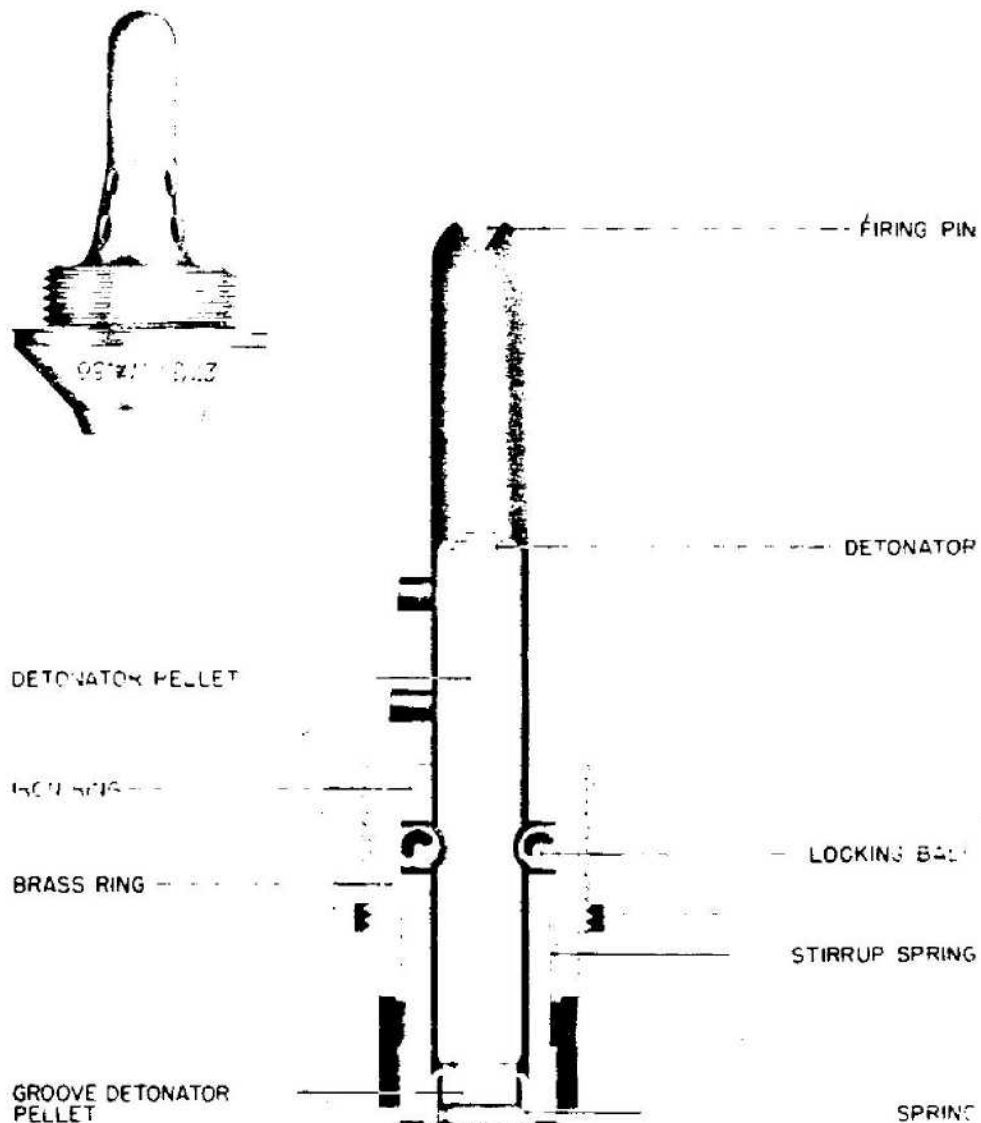

Figure 605—W. Z. 36
**EMPLOYMENT:** Mechanical Impact Base Fuze for Polish 3.7-mm A. P. shell. (See fig. 605.)